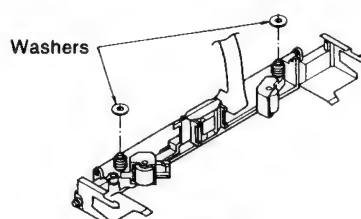

Fig. 5
4. Remove 2 washers. (See Fig. 5.)